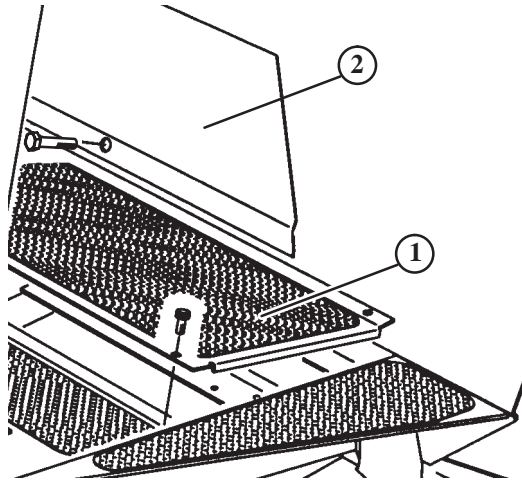

Figure 4
1. Remove fasteners securing left front corner of floor panel and left end of access panel to frame (Fig. 4).
2. Replace floor panel fastener with flange head capscrew (5/16 x 5/8 in.) supplied in loose parts (Fig. 4).
3. Replace access panel fastener with flange head capscrew (5/16 x 3/4 in.) supplied in loose parts (Fig. 4).